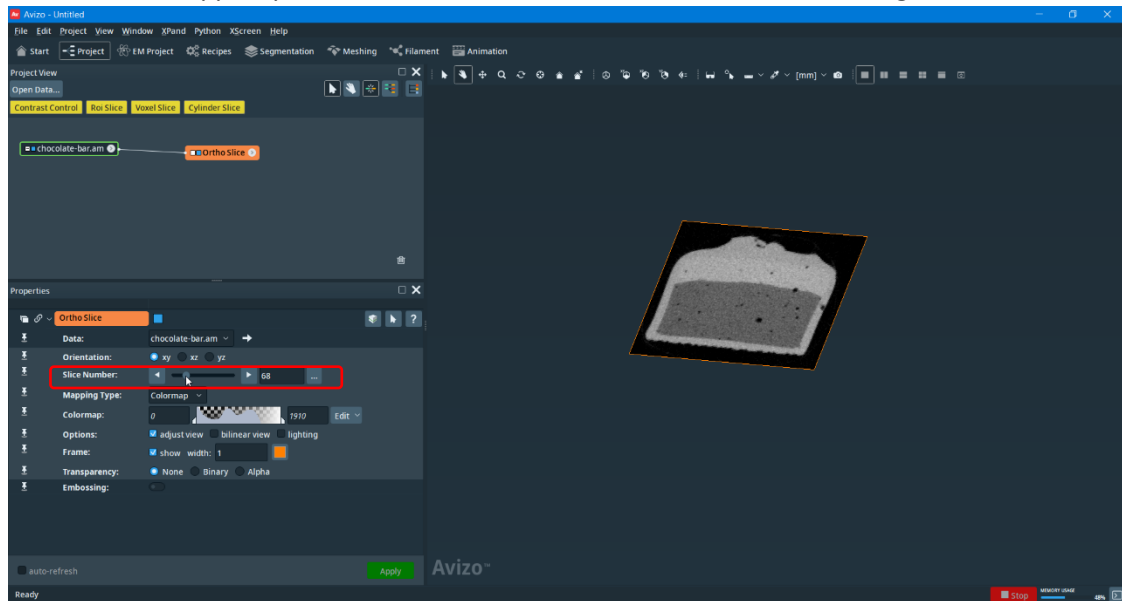

Figure 1
3. Select as support plane for the first contour on the slice number 68: Figure 1